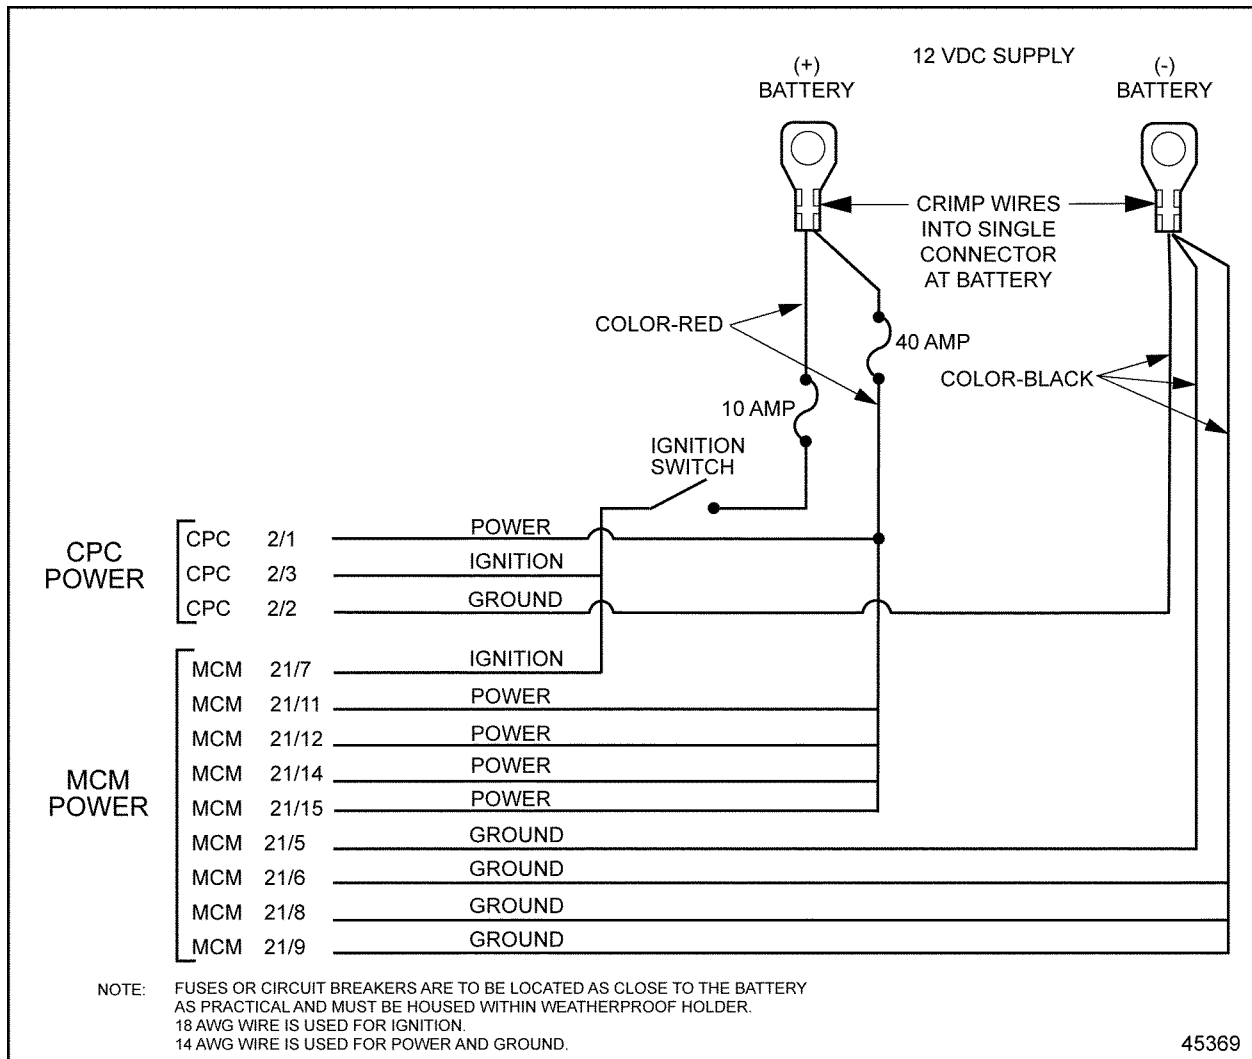

Figure 11-2 Power Wiring
1. Measure the difference in voltage inputs between the CPC and the MCM. See Figure 11-2.